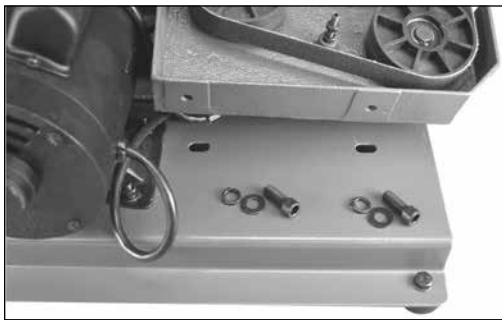

Figure 1
2. Remove the plastic Belt Cover (#74) from the frame, by unscrewing the two Knobs (#75). This will allow you to see the two threaded holes in the frame for alignment with the base's holes as shown above in figure 1 .